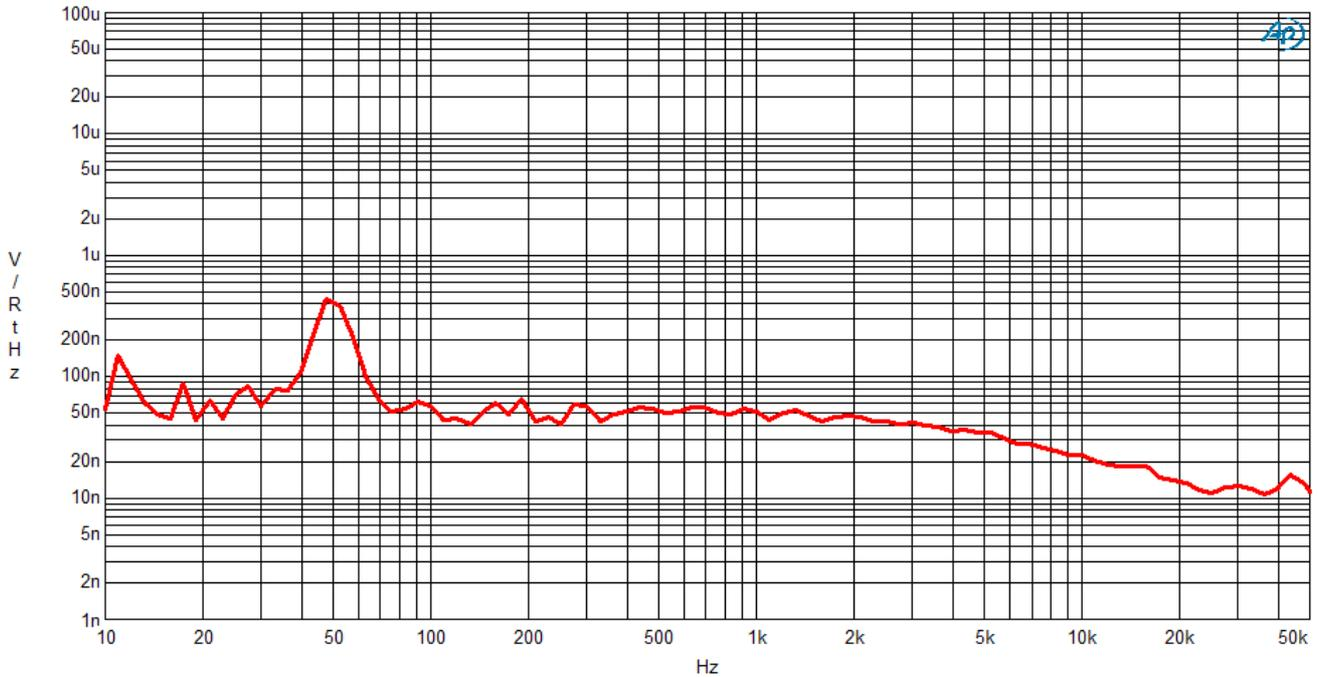

Fig.7 Noise over frequency in V/RtHz
4. Noise floor over frequency. Measurement of noise with a sliding bandpass filter. The noise at each frequency point is measured in the filter pass-band, corrected for bandwidth of the filter and for the filter slopes, and dimensioned to V per root Hz. Result is shown in fig. 7.